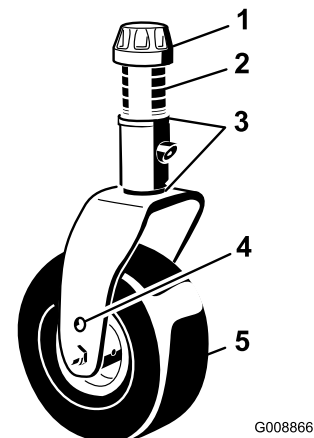

Figure 83
1. Remove the tensioning cap from the spindle shaft and slide the spindle out of the caster arm (Figure 83).